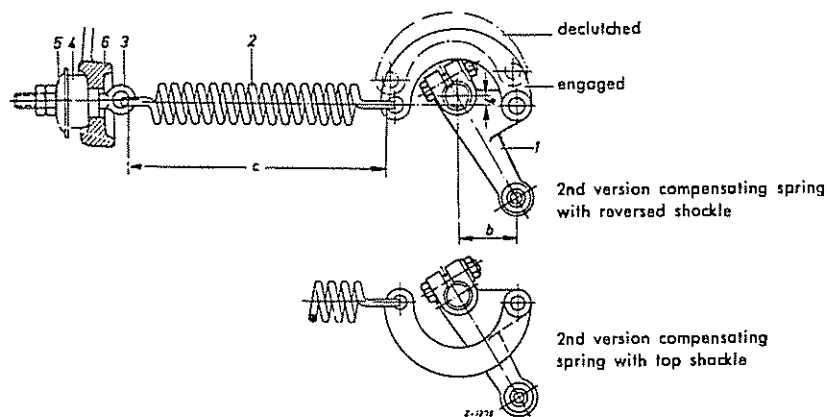

Fig. 29-5/5
end plate, attach the flange (8) to the jointing disk (9) and slide the rubber cuff (5) onto the end plate (2) (Fig. 29-5/1).
17. Install the clutch linkage. Attach the compensating spring (18) on the 2nd version and (18 a) on the 3rd version and the return spring for the throw-out fork (Fig. 29-5/1). The distance between center pedal shaft downward to center compensating spring should be 4 mm in the case of the 3rd version shaft when the clutch is engaged (see Fig. 29-5/5).
The distance can be varied by changing the position of the end plate in relation to the transmission (see Fig. 29-5/1).